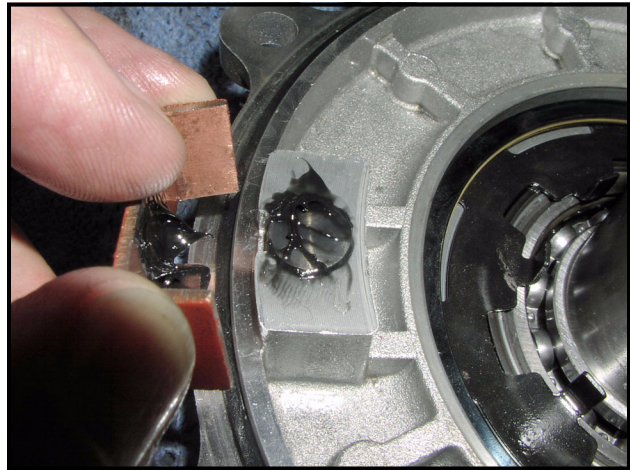

Figure 9-15 Install Thrust Plate
5. Install the thrust plate on the output cover (**Figure 9-15, Page 9-6**). See following **NOTE**.